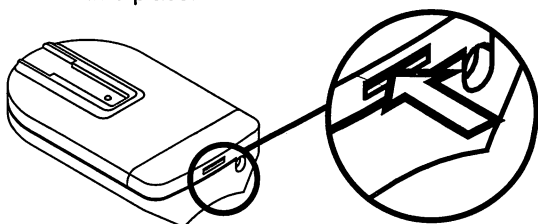

Fig. 2
Step 5-1 Turn Transmitter upside down Fig. 2 .
- Gently push straight IN on Tab as shown Fig. 2